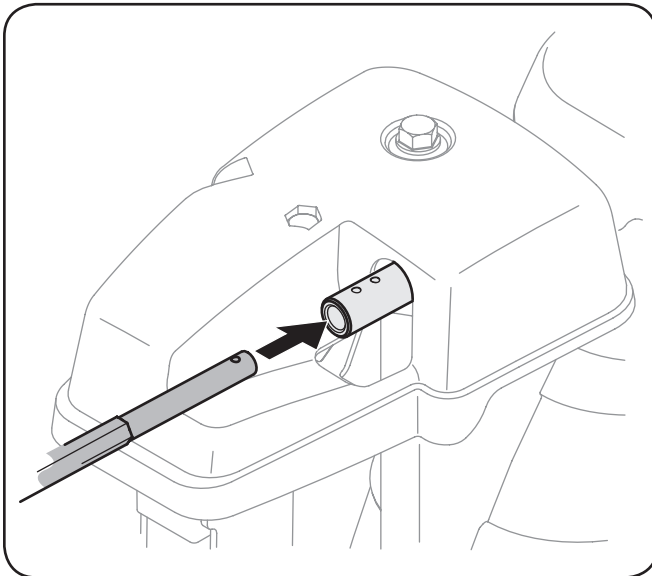

Figure 3-11
2. Insert chute control rod into chute control head. Push rod as far into chute control head as possible, keeping the holes in the rod pointing upward. See Figure 3-11.